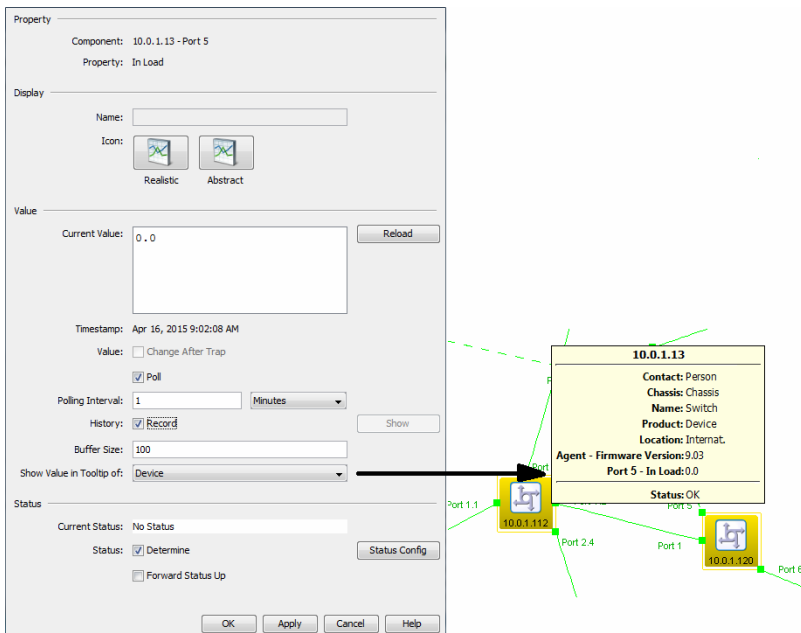

Figure 65: Detail properties
- ▶ With “Buffer Size” you specify how many lines the protocol buffers. If you also want to display this value in the bubble help of a higher-level component, you select the component in the “Show Value in Tooltip of” drop-down list(see figure 65).